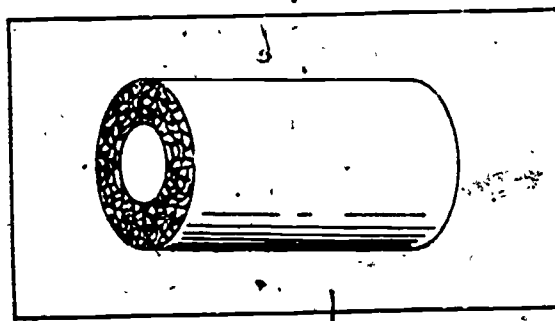

Figure 4-3. Molded cork pipe covering.
c. **Cork pipe covering.** Cork pipe covering is a granulated material that is processed from the bark of cork trees. When it comes to advantages, no other product can match all the benefits of molded cork covering. A piece of cork pipe covering is illustrated in figure 4-3. This pure, clean, granulated cork is compressed and molded to the exact size and shape, and finished with a coating of plastic asphalt. Cork pipe covering is an ideal covering for brine, ammonia, ice water, and all kinds of cold water lines. It has excellent insulating qualities over a wide low-temperature range. Cork pipe covering will not rot or support combustion, and is clean, sanitary, and odor-free. It is available in a wide variety of sizes and shapes that can be used on various sizes of pipes and fittings.
**Installing pipe covering.** Pipe coverings, illustrated in figures 4-3 through 4-11, indicate some of the types of covering available to the plumber today. These coverings are easily installed, because each section is split in half and has a canvas cover with a flap for quick sealing. Joint collars are furnished to cover joint seams on insulation exposed to outside conditions.